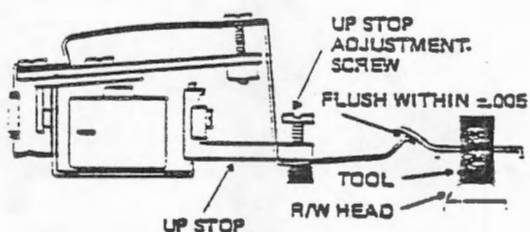

FIGURE 2 HEAD LOAD ACTUATOR UPSTOP ADJUSTMENT
- h. Adjust up stop on actuator so that bail just touches Head Load Arm or has  $.005''$  clearance or lifts Load Arm  $.005''$ . Reference Figure 2.